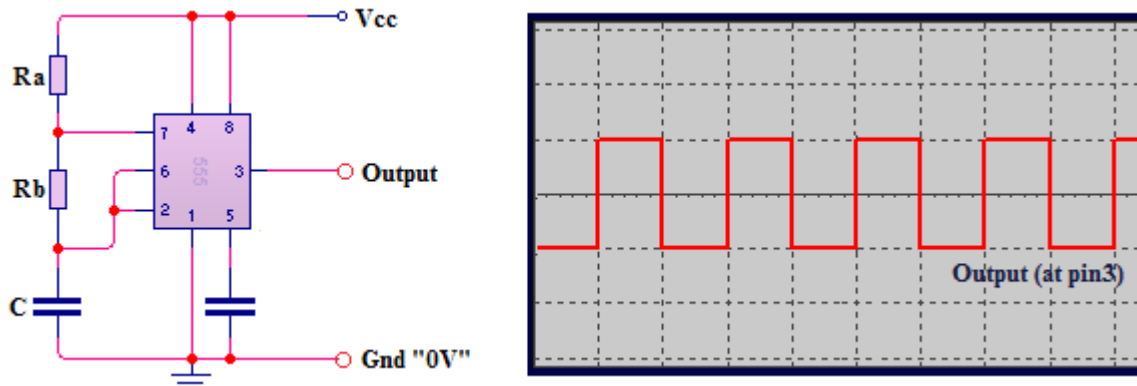

Figure 8-9: Astable 555 timer base circuit
An astable 555 timer circuit has no stable state, hence the name “astable”. The output, called a square wave, continually switches between high and low states without any involvement of the user. The basic circuit is illustrated in figure 8-9.
As shown in figure 8-9, both the trigger and threshold inputs (pins 2 and 6) to the two comparators are connected together and to the external capacitor. The capacitor charges toward the supply voltage through the two resistors, R_a and R_b . The discharge pin (7) connected to the internal transistor is connected to the junction of those two resistors. When power is first applied to the circuit, the capacitor will be uncharged; therefore, both the trigger and threshold inputs will be near zero volts. The lower comparator sets the control flip-flop causing the output to switch high. That also turns off internal transistor. That allows the capacitor to begin charging through R_a and R_b . As soon as the charge on the capacitor reaches $2/3$ of the supply voltage V_{CC} , the upper comparator will trigger causing the flip-flop to reset. That causes the output to switch low. Transistor also conducts. The effect of transistor conducting causes resistor R_b to be connected across the external capacitor. Resistor R_b is effectively connected to ground through internal transistor. The result of this is that the capacitor now begins to discharge through R_b .